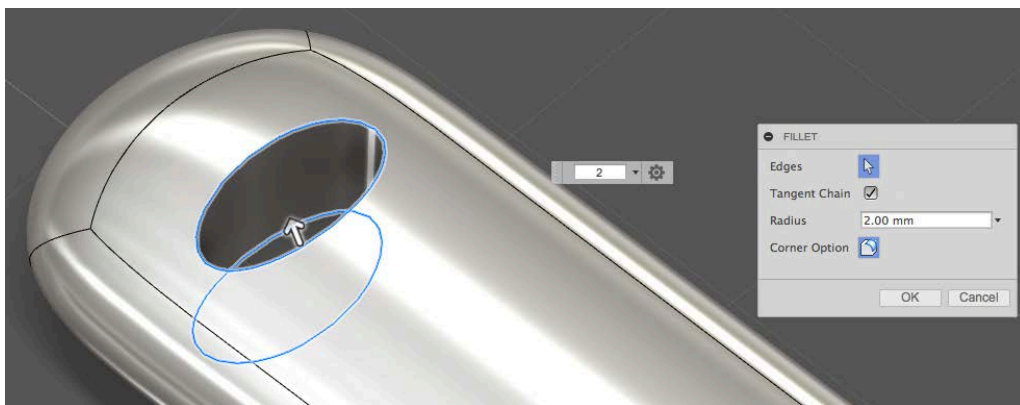

Fig. W11
13. Go to Modify>Fillet, select top and bottom edge of hole and set fillet to 5mm (Fig. W11).